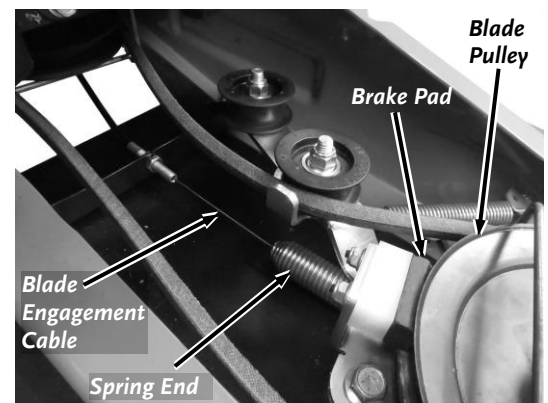

Figure 7
- With the Blade Engage Lever released, ensure that the Brake Pad is resting against the Blade Pulley and that the Cable/Spring end of the Blade Engagement Cable does not have tension and is sagging slightly (**Figure 7**).